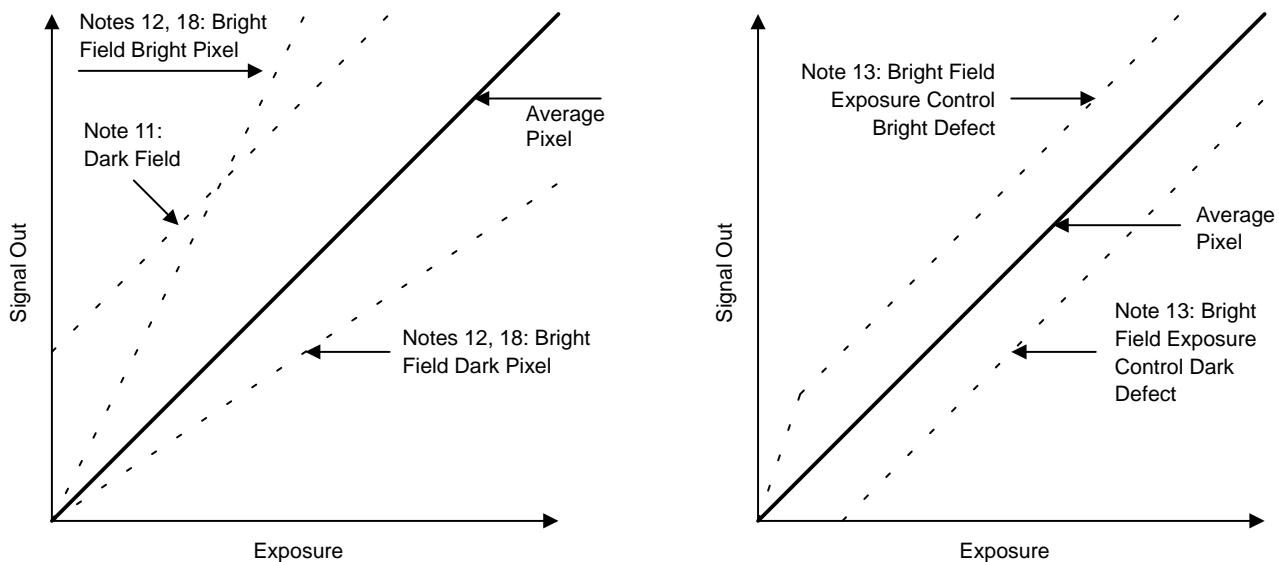

Figure 11. Defect Pixel Classification
| Exposure Control Defects, ChromaChannels                          | Exp Def                 | –                     | –                                 | 64                    | Allowed        | 10, 13, 20Figure 11                           | Die 21                         |
| Exposure Control Defects,Luma Channels                            | Exp Def           | –                    | –                    | 128    | Allowed  | 13, 20Figure 11 | Die 21                         |
11. Pixels whose response is greater than the average response by the specified threshold, (16 mV). See Figure 11.
12. Pixels whose response is greater or less than the average response by the specified threshold, (±15%). See Figure 11.
13. Pixels whose response deviates from the average pixel response by the specified threshold, (4.5 mV for Chroma, 5.5 mV for Luma), when operating in exposure control mode with an integration time that is 50% of the line time. See Figure 11. If dark pattern correction is used with exposure control, the dark pattern acquisition should be completed with exposure control actuated. Dark current tends to suppress the magnitude of these defects as observed in typical applications, hence line rate changes may affect perceived defect magnitude. Measured at 1 MHz data rate.
18. Pixels whose response is greater or less than the average response by the specified threshold, (±10%). See Figure 11.